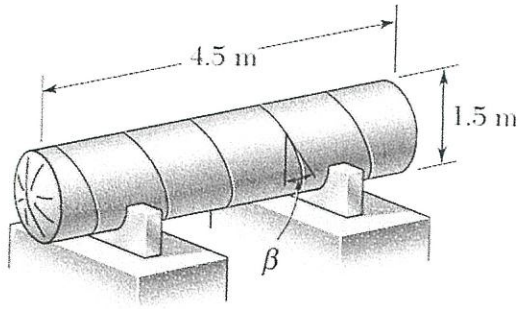

Figure Q1(b)
- (b) The pressure tank shown in **Figure Q1 (b)** has a diameter 1.5 meter, 10 mm wall thickness and butt welded seams forming an angle $\beta = 20^\circ$ with a transverse plane. For a gage pressure of 580 KPa . Analyse the pressure tank to obtain: